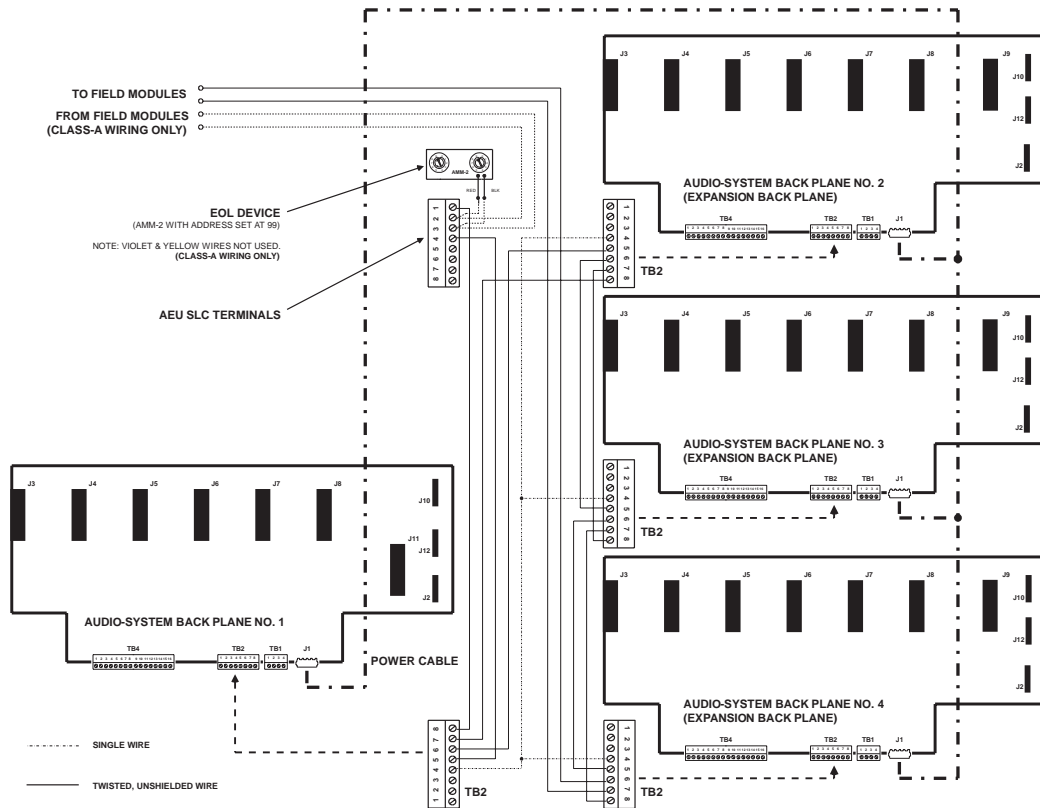

Figure 2-6
- Figure 2-6 shows the connections among backplanes.